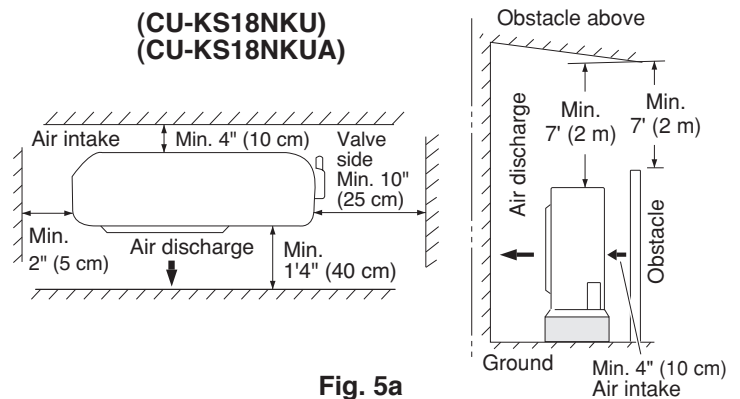

Fig. 5a
- allow enough room around the unit for air intake/ exhaust and possible maintenance. (Fig. 5a or 5b)